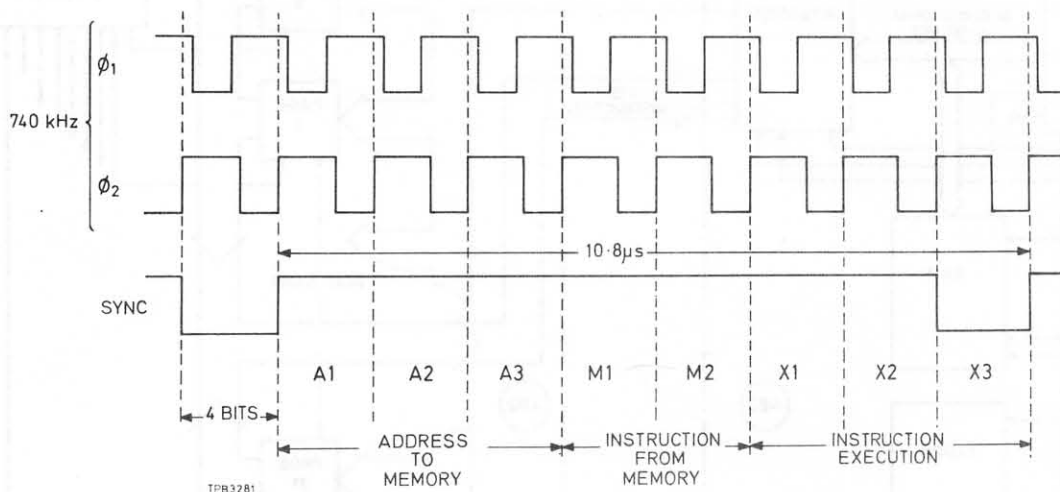

Fig. 15 Microprocessor timing
53. Microprocessor IC2 controls the overall activities of the microprocessor and memory boards. In order to synchronize these activities a SYNC pulse is generated at pin 16 to indicate the start of an instruction cycle. The complete instruction cycle takes $10.8 \mu\text{s}$ and is divided into 8 equal periods by the ϕ_1 and ϕ_2 clock inputs from IC1 (see Fig. 15). The first three periods A1, A2, and A3 are used to present a 12 bit (three groups of 4 bits) instruction address to the memory. Fourth and fifth periods M1 and M2 are used to read the instruction byte from the memory. The remaining three periods X1, X2 and X3 are used for program execution. These execution periods may be used for a memory read or write, an internal processor operation using its own registers, or an input or output via the ports.
55. The purpose of interface IC3 is to communicate with the ROM banks on board AB3 containing the program memory and input ports. Address information sent by the microprocessor during periods A1, A2 and A3 (see Fig. 15) on pins 1 to 4 is latched out by IC3 and presented as a 12-bit address to the memory as the ADDRESS signal on pins 23 to 26 during period A1, pins 27 to 30 during period A2 and as the CHIP SELECT signal on pins 31 to 34 during period A3. The 8 bit instruction code returned from the memory is passed to pins 5 to 8 as operator OPR, and pins 9 to 12 as operand OPA. These are then multiplexed in the interface and transferred to the microprocessor by means of the data bus to pins 1 to 4 in two 4 bit words during periods M1 and M2.
56. Overall command of the interface and hence of the ROM bank is exercised by the microprocessor. Pins 18 (IN) and 19 (OUT) control the direction of data flow to and from front panel, GPIB etc. IN enables data and instructions to be accepted from ROM board AB3 on the I/O lines to pins 36 to 39 of the interface. When OUT is set low it enables binary-to-decimal decoder IC4 to select one of the latches IC9 to IC1 for passing data out from the interface. Latch selected is determined by the logic on the CHIP SELECT lines.